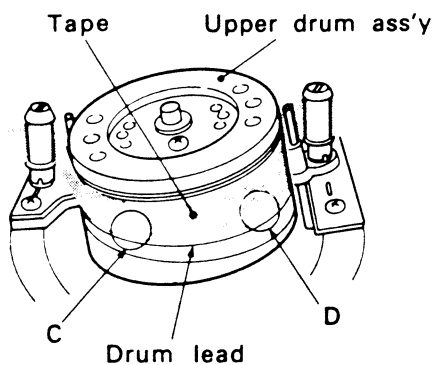

Fig.6-4 Drum lead check - 2
- Observe the tape as it wraps around the drum during loading and as it separates from the drum during unloading. Confirm absence of damage to the tape at points C and D as shown in Fig.6-4 and absence of contact noise between head tips and tape edge.